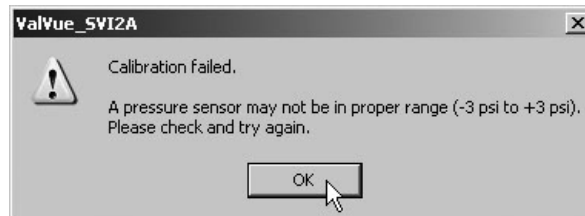

Figure 104 Calibration Failure Dialog
*If ValVue detects an error when performing pressure calibration, the calibration aborts and the dialog displayed in Figure 104. Click **OK** to close the dialog and return to the Calibrate screen. Troubleshoot the problem prior to performing pressure calibration a second time.*